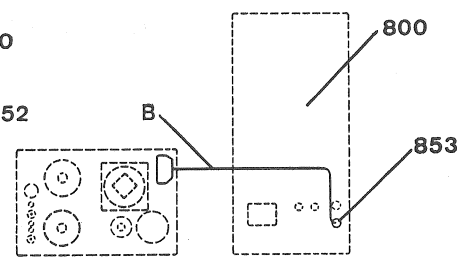

Fig 18
1. Connect the control cable (B) of the dielectric tank to its socket (853) on the generator (800) (fig. 18).